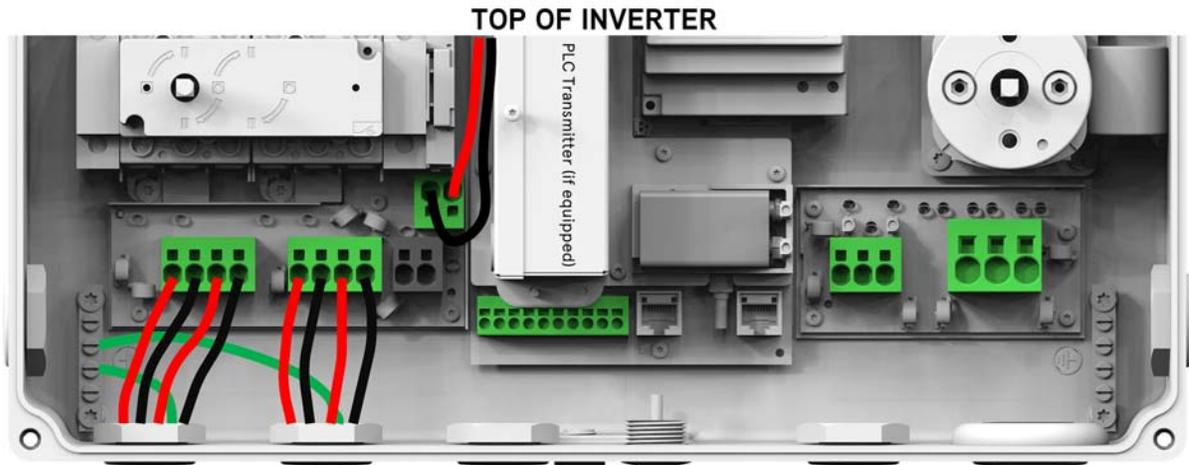

Figure 3-13: Parallel string connections
The two (2) 3/4" conduit holes on the bottom left side of the wiring box are each dedicated to an MPPT channel. The wiring box also includes an optional 3/4" conduit hole on the left side. See Figure 3-13.
The wiring box may include a Rapid Shutdown Master (Power Line Communication or PLC Transmitter) that sends a simultaneous wireless PLC signal to the RSD boxes connecting all of the strings in the PV array via the high-voltage DC lines connected to the PV+ and PV- connections, as shown in Figure 3-13.
CAUTION: THE PLC TRANSMITTER MUST BE WIRED AS SHOWN IN FIGURE 3.13. REVERSING THE POLARITY COULD CAUSE AN EQUIPMENT FAULT.